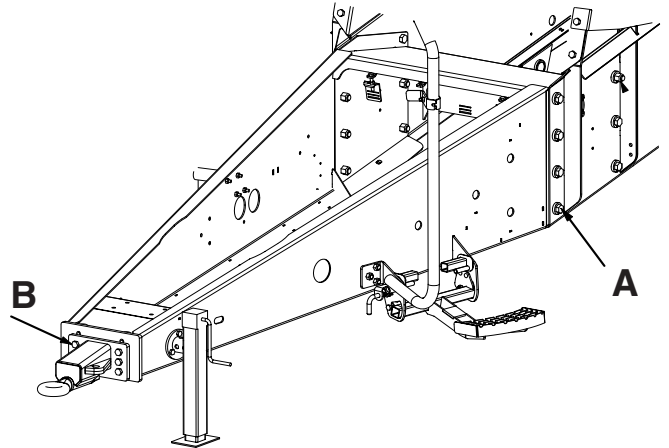

Fig 21
- 2 Tighten chassis bolts (**A** Fig 21) - 370 Nm (270 lbf-ft).
- 3 Tighten hitch bolts (**B** Fig 21) - 190 Nm (140 lbf-ft).